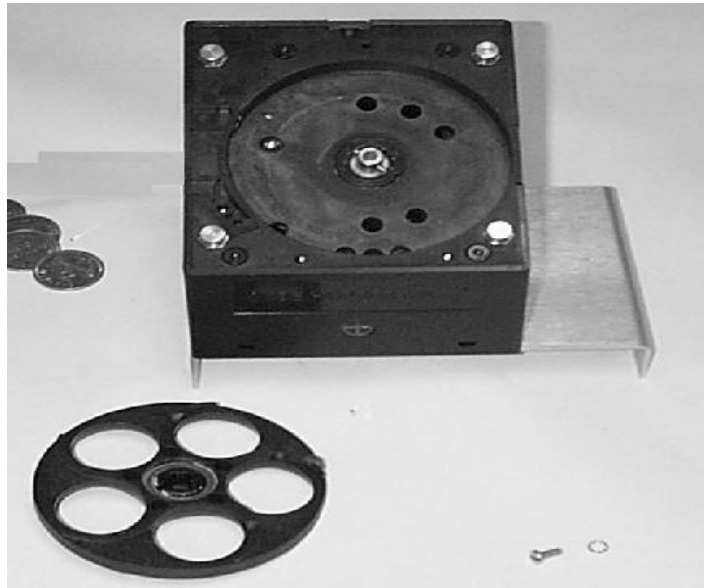

Figure 18. Hopper View - Wheel Removed
1. Once the new guide arm and dispensing-wheel have been replaced, reinstall the coin guide arm cover. (See Figure 18.)